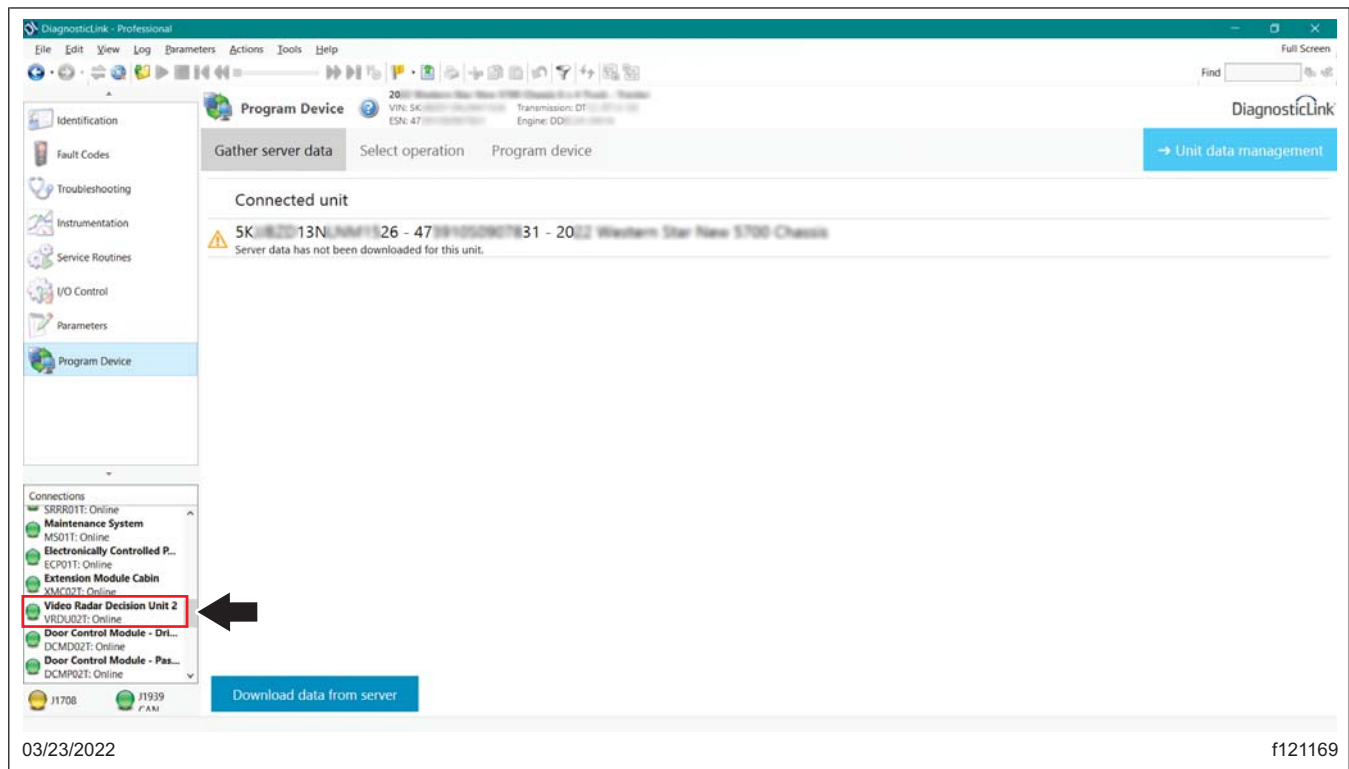

Fig. 1, VRDU02T Connected
4. Connect the vehicle to DiagnosticLink. Ensure the VRDU02T ECU rollcalls, and is visible in the 'Connections' window. See Fig. 1.